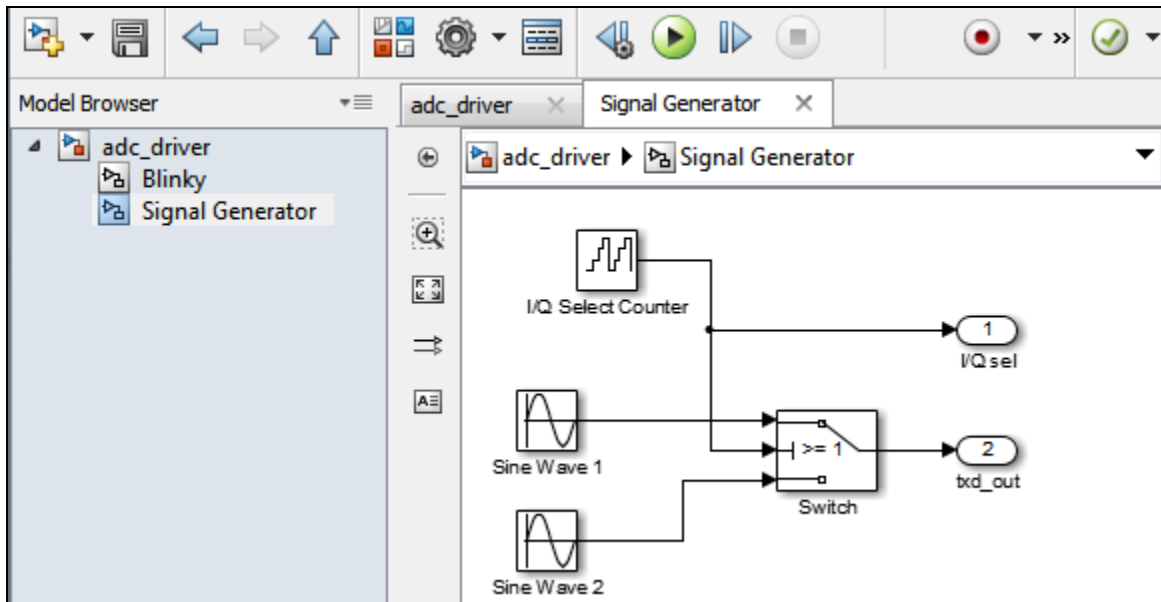

Figure 1-4: Signal Generator Subsystem
3. The **Signal Generator** subsystem shown in Figure 1-4 is used to test the functionality of the ADC driver.